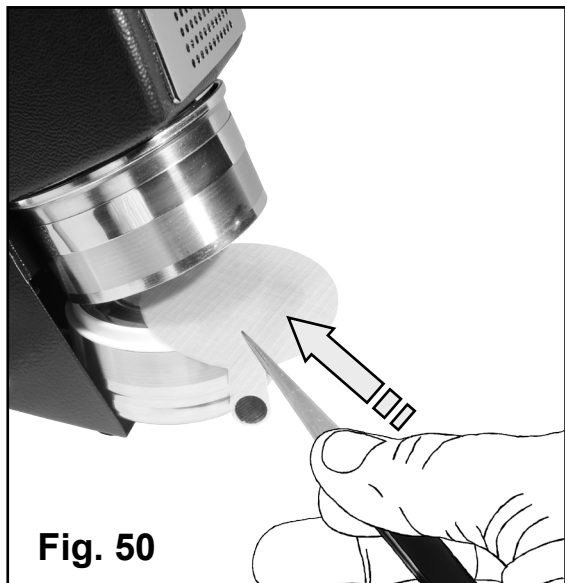

Fig. 50
9. Open the working module of the Heater and insert the swab (Fig. 50) or the Metallic Gauze Sampler (Fig. 51).